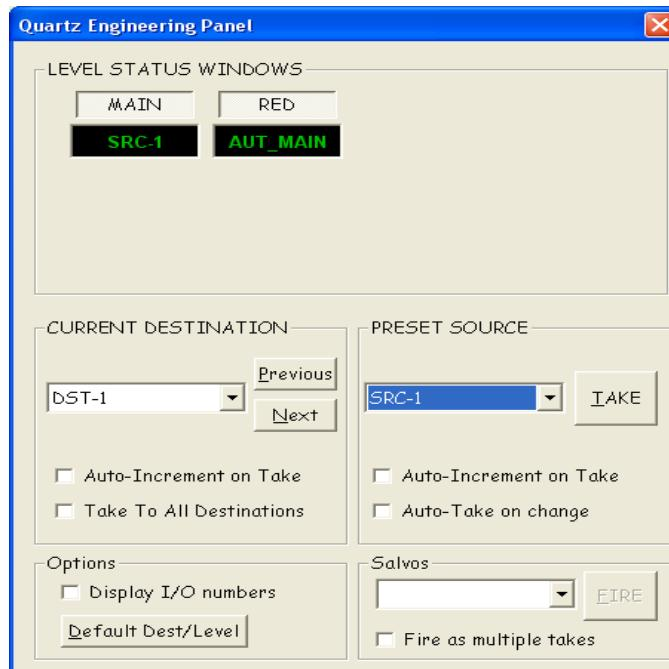

Figure 15-1 : Level Status Window
- The status of the output will be displayed under "Level Status Window". Shown in Figure 15-1 below: